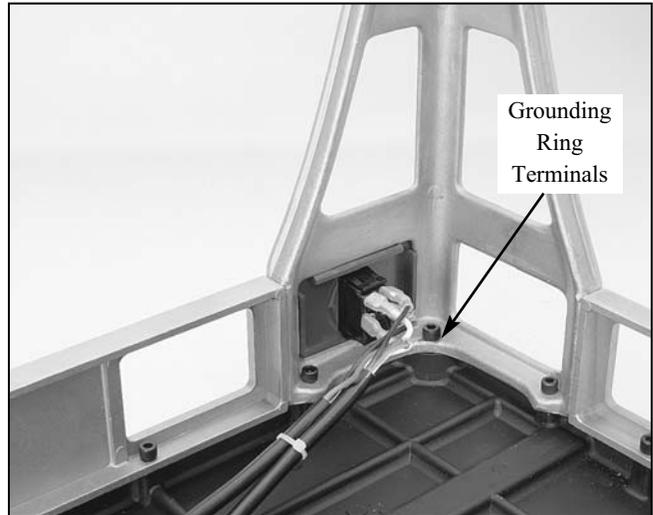

Figure 10. Attaching the grounding ring terminals.
Step 2 - The two grounding terminals must be attached to the Rebel® frame. Remove any convenient socket head cap screw attaching the leg to the tabletop. Overlap the two ring terminals connected to the end of the two grounding (green) wires. Insert the socket head cap screw through the ring terminals and re-fasten to the tabletop. **Figure 10.**